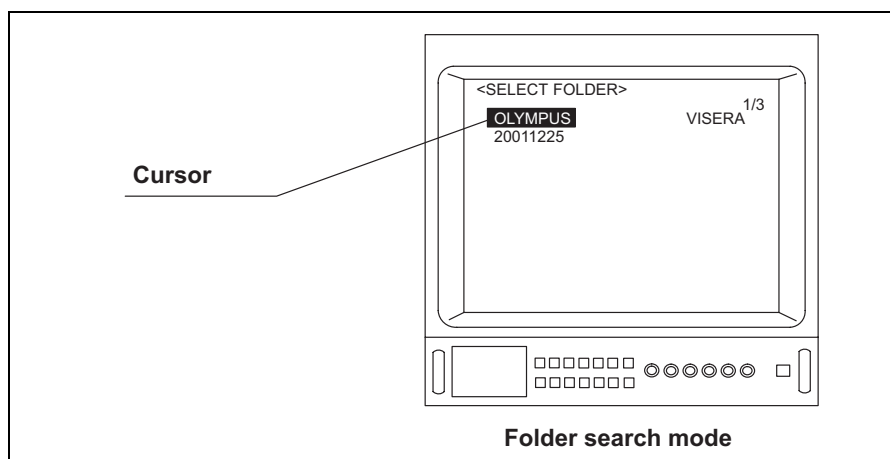

Figure 5.100
- Depress the menu switch "◀" for approximately 1 second or the "B.O.D." key that is set to "DIGITAL CAPTURE" to display the folder search mode shown in Figure 5.100. If no folders have been set up on Memory Card, the message "FOLDER NOT FOUND" is displayed on the video monitor.
- Depress the menu switches "◀" or "▶", or the "↑/↓/←/→" key on the keyboard quickly to move the cursor to the desired folder (for example, "OLYMPUS") (see Figure 5.100).
- Depending upon the OTV-S7V's settings, the menus shown in Figures 5.100 and/or 5.101 may appear different from those displayed on the video monitor.
1. Depress the menu switch “” for approximately 1 second or the “B.O.D.” key that is set to “DIGITAL CAPTURE” to display the folder search mode shown in Figure 5.100. If no folders have been set up on Memory Card, the message “FOLDER NOT FOUND” is displayed on the video monitor.
2. Depress the menu switches “” or “”, or the “” key on the keyboard quickly to move the cursor to the desired folder (for example, “OLYMPUS”) (see Figure 5.100).